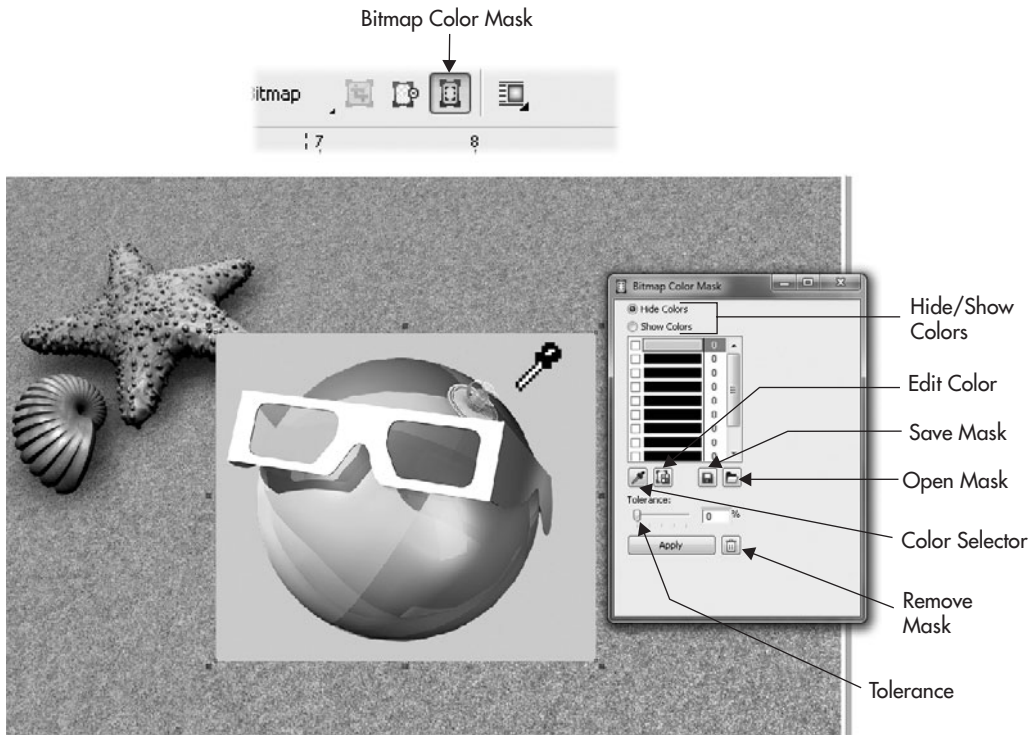

FIGURE 24-8 An image without a transparent background can't be successfully melded into a composition.
2. Import the Beachball.tif image and then place it anywhere you like for the moment. As shown in Figure 24-8, the green area around the beach ball sort of messes up its integration into the beach scene.